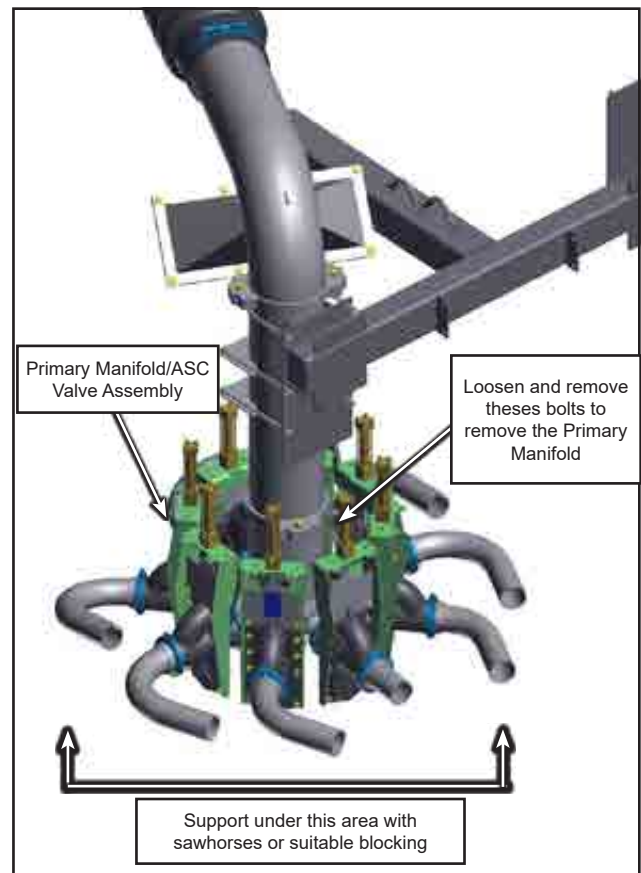

Figure 1.14 - Primary Manifold - Removal
5. To replace the inserts, the primary manifold will have to be unbolted from the bottom of the vertical pipe. Refer to *Figure 1.14*.
- c. Loosen and remove the bolts shown in *Figure 1.14*.